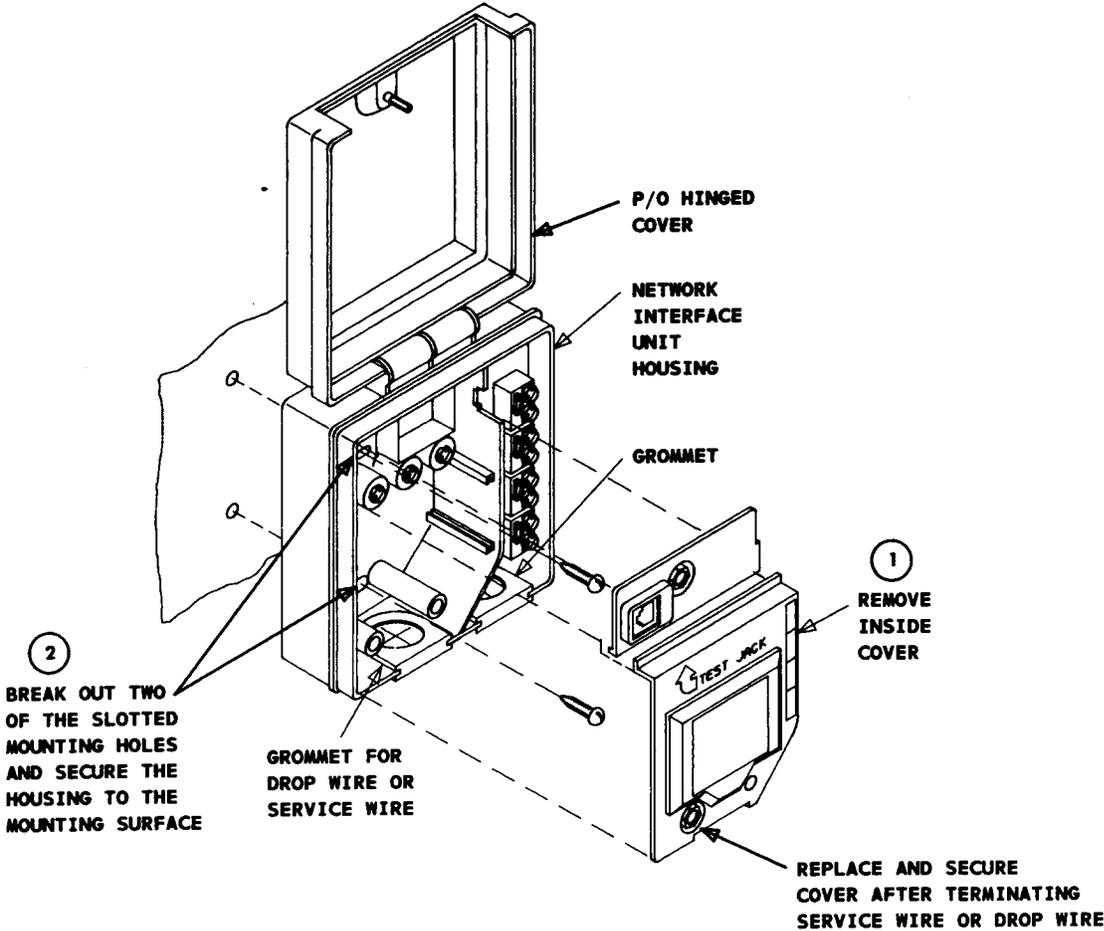

Fig. 2—Mounting 100-Type NIU
3.01 The 100-type NIU is designed for inside or outside mounting on a wall or pedestal. Mount the 100-type NIU as illustrated in Fig. 2.